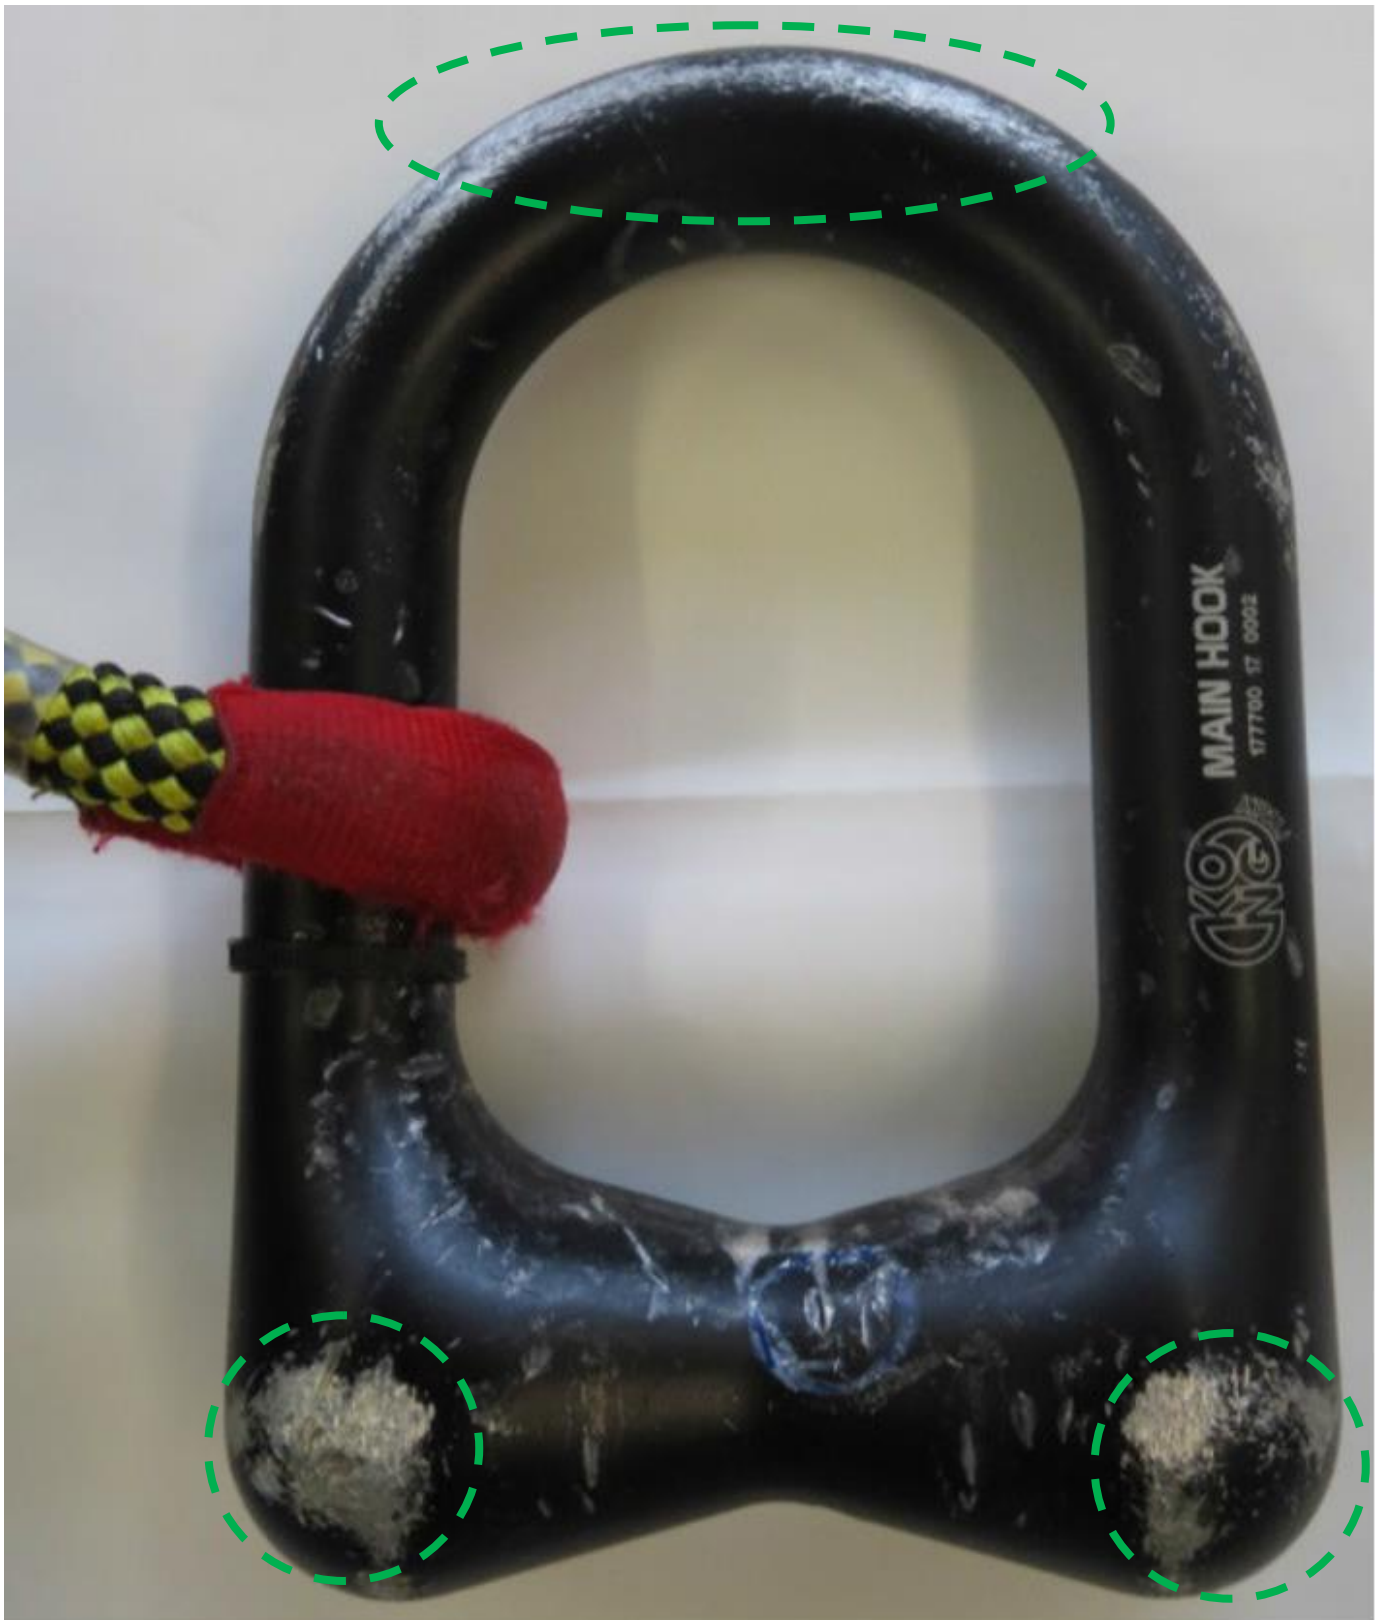
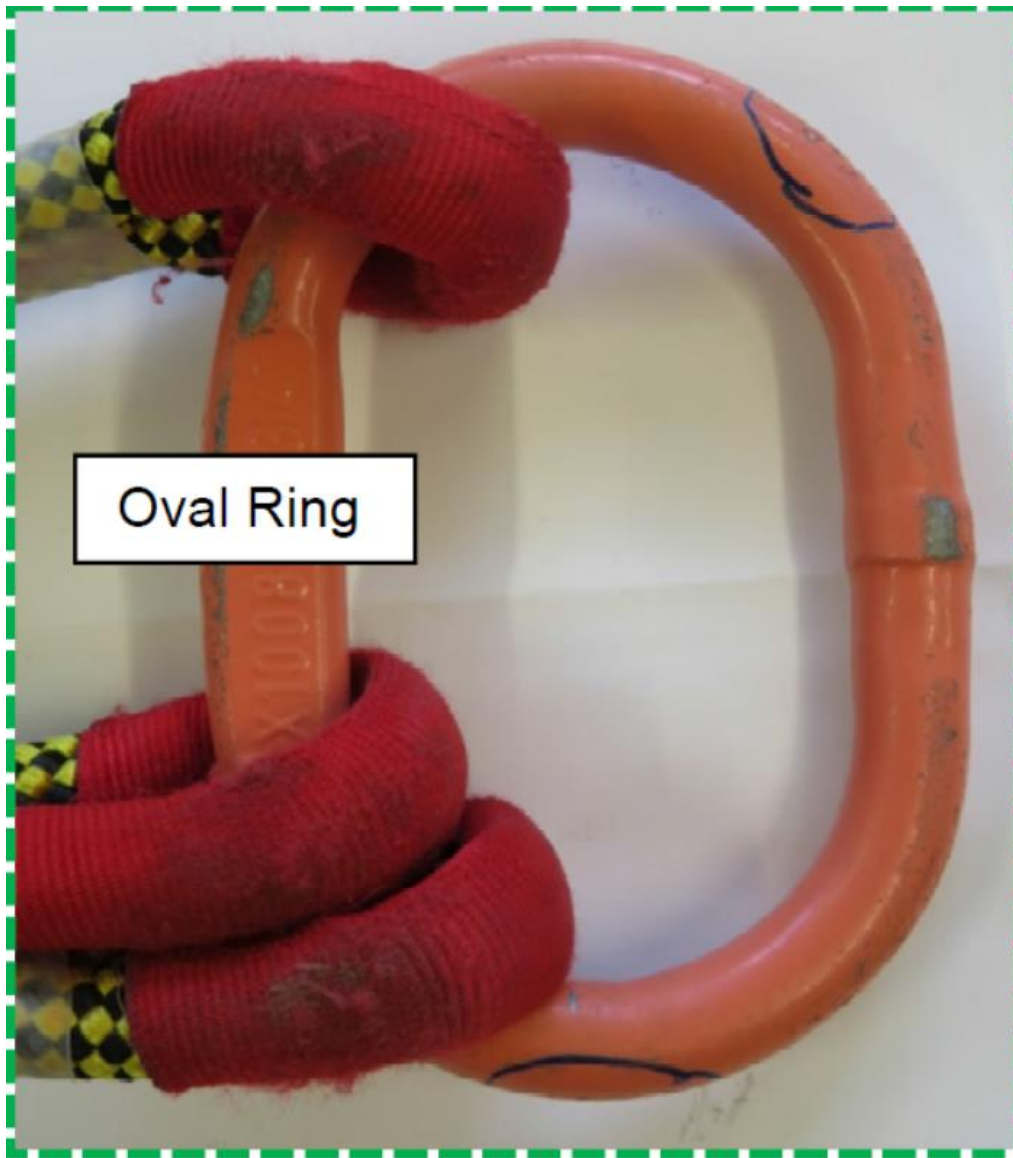
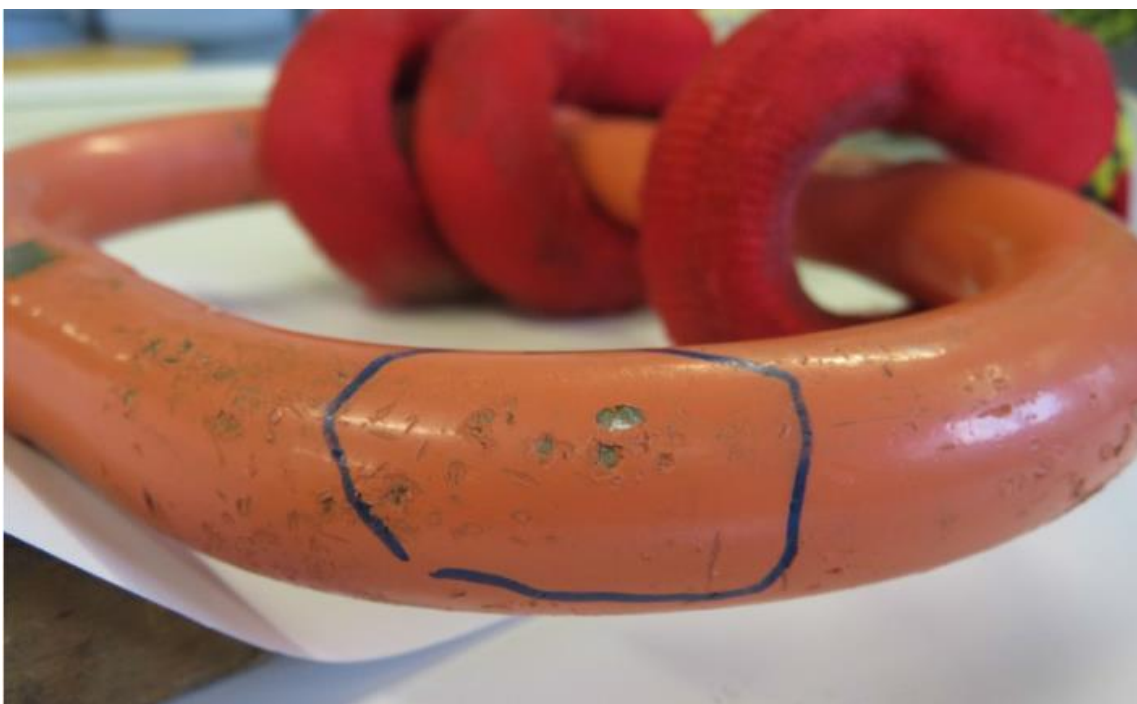

Fig.11 – Main hook ring – Example non significant damages
Fig.12 – Backup hook ring – Example non significant damages
Fig.13 – Junction ring – Example non significant damages
- b) notches check metal part (main hook ring, backup hook ring, conjunction ring, swivel, spider connection plate, connectors). The part must be inspected using a magnifying lens to identify surface notches. Figure 11, figure 12 and figure 13 show typical damages to be considered not significant; figure 14, figure 15, figure 16 show typical damages which require the notch depth to be measured; such measurement should be performed according to the following procedure (Material needed: elastomeric, silicone based, as “Provil® novo Regular” or “Provil® novo Fast”, or equivalent):